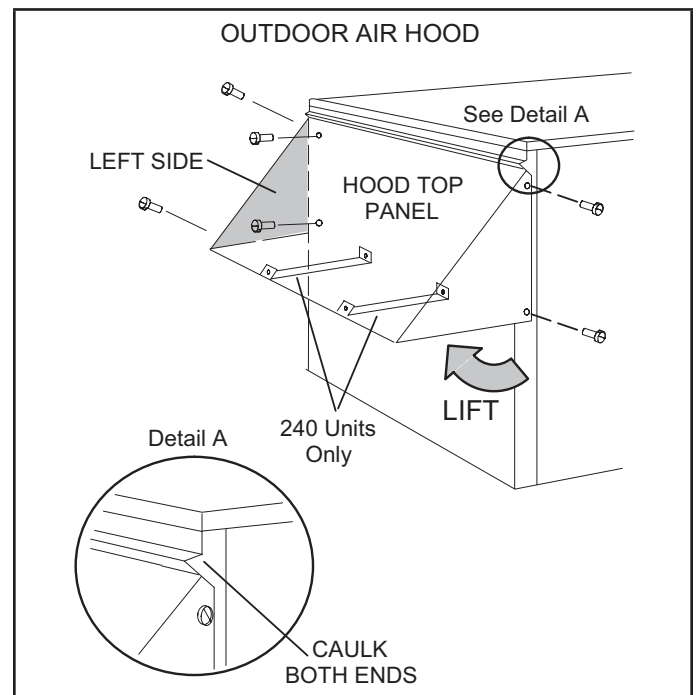
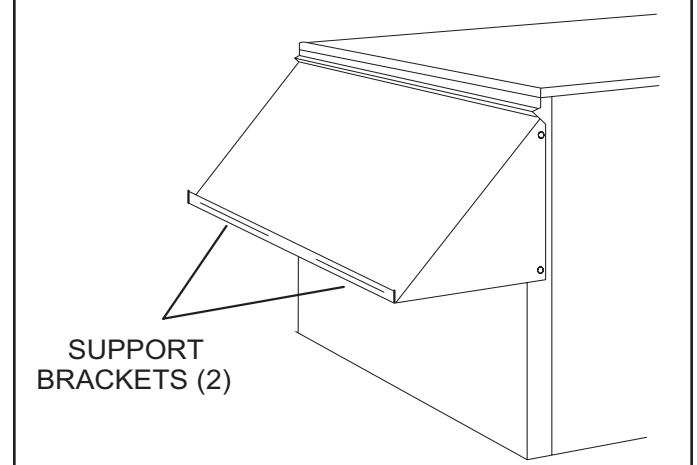

FIGURE 11
FIGURE 12
- 3 - Lift (rotate) the bottom of the hood top panel and attach left side to hood top panel. See FIGURE 11.
- 6 - 240 Units Only - Remove two support brackets from hood top panel flange. See FIGURE 12. Install as shown in FIGURE 11.